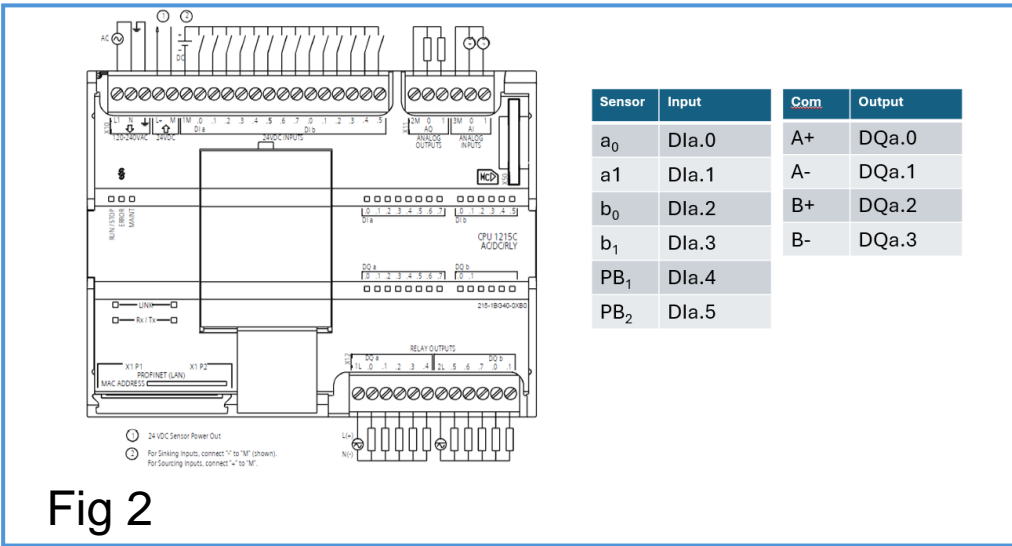

Fig 2
- 3. Step 3: Connect the parts 6 following the Fig.2;